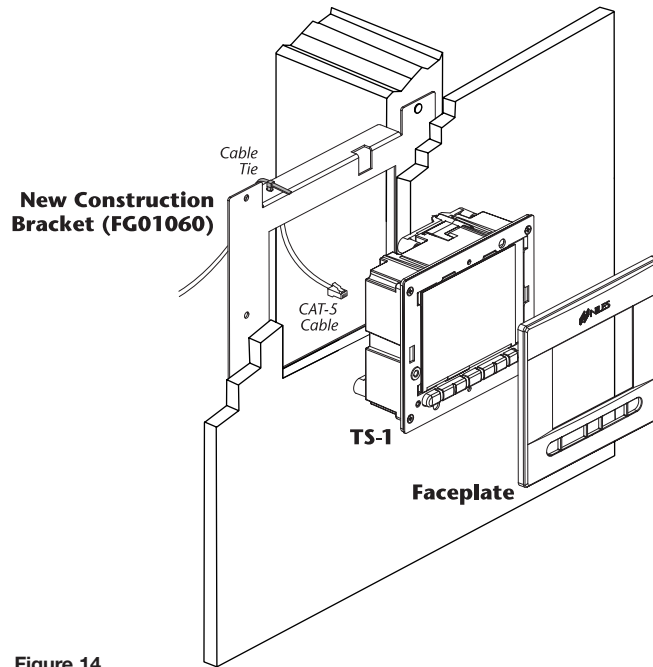

Figure 14
For a new construction site, use our optional New Construction Bracket (FG01060) to provide a support for mounting the TS-1 on new drywall, as shown in Figure 14.
2. Use a cable tie to attach the CAT-5 cable(s) to the bracket at about 6" from the end(s) (see Figure 14 on the previous page).